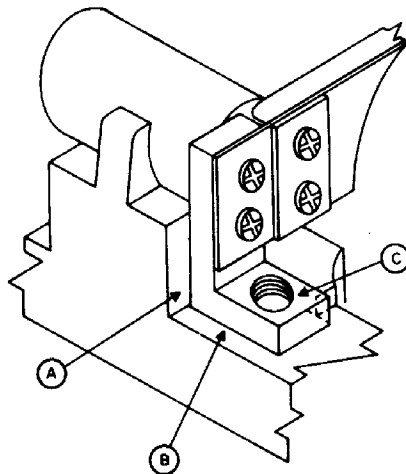

Figure 10. Bias Spring Bracket and Clapper Assembly for Type 860 Ringer.
- The "L" shaped bracket of the bias spring and clapper assembly shall be as nearly in contact with surface A, B and C of Figure 10 as possible, after which the permanent magnet shall be positioned firmly against the L shaped bracket.